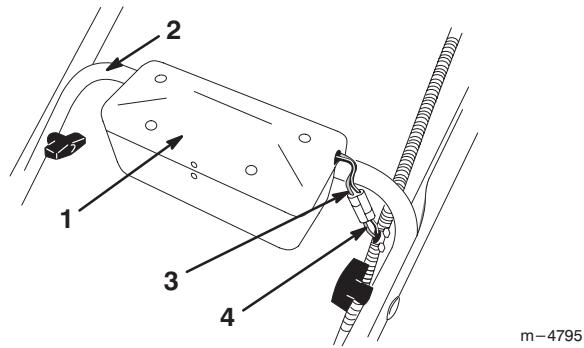

Figure 4
2. Align the pins in the battery case with the holes in the lower handle, and lower the pins into the holes until the battery case snaps into place (Fig. 4).
3. Connect the wire lead from the battery to the wire lead from the electrical wire harness in the corrugated tube (Fig. 4).